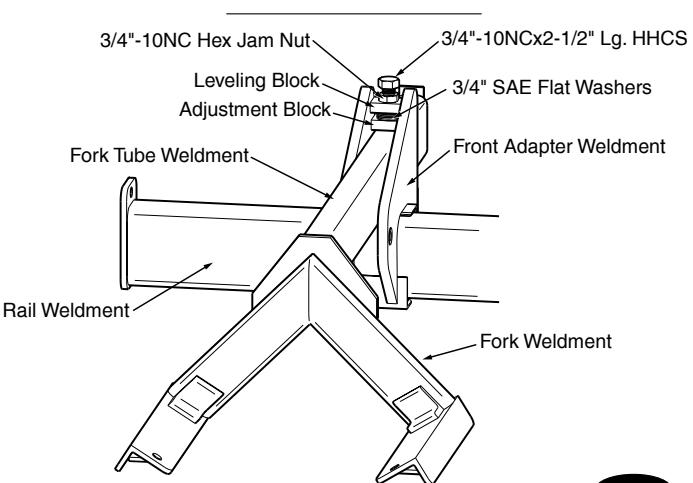

Fig. 34
1. 3/4" SAE Flat Washers are to be added between the leveling block and the adjustment block. (5) qty. washers will be needed if floor is completely level.
2. Put 3/4"-10NC Jam Nut on 3/4"-10NC x 2-1/2" lg. HHCS, tightening until the nut is close to the bolt head, see Fig. 34.